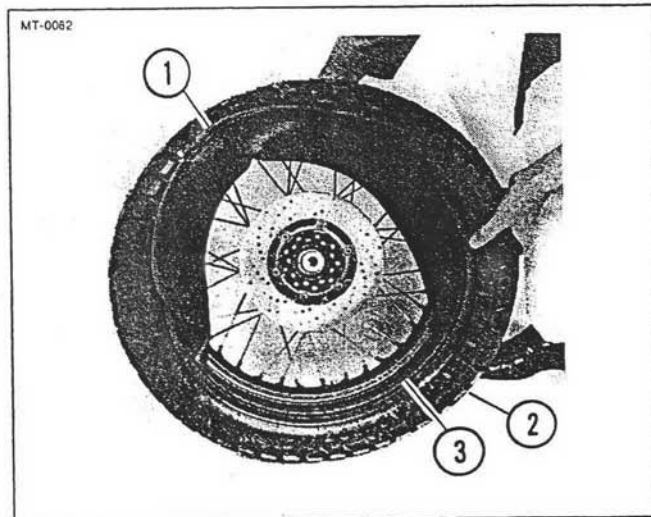

Figure 5-57. Installing Inner Tube
3. See Figure 5-57. Position one-half of inner tube (1) inside tire (2) and place tire with tube onto wheel rim (3).